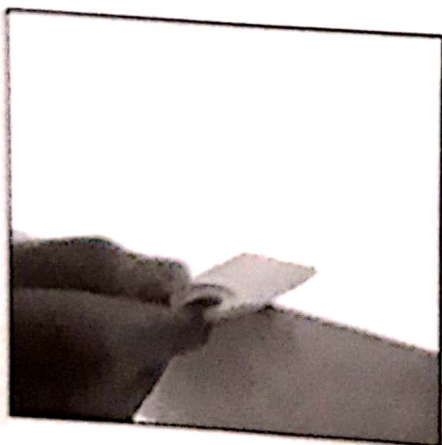

Fig. 2A
3. Install the holder as described in Figure 2A.